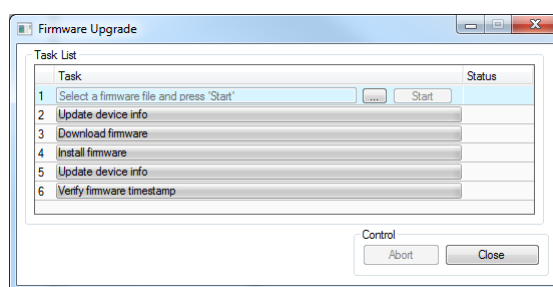

Figure 100: Firmware Update dialog of the Configurator
6. This opens the Firmware Update dialog as shown in Figure 100. Click on the button  and select the firmware image.